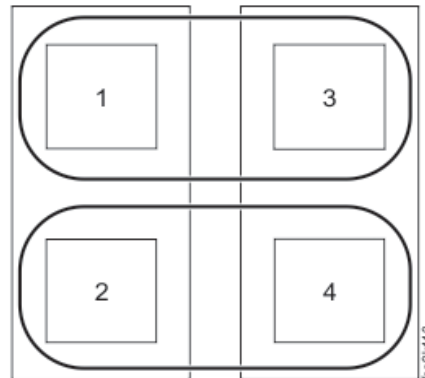

Figure 23. Crossing grid controller adapter ports
- Use both Fibre Channel or iSCSI adapters within each of the grid controllers, as shown in Figure 23 on page 55.